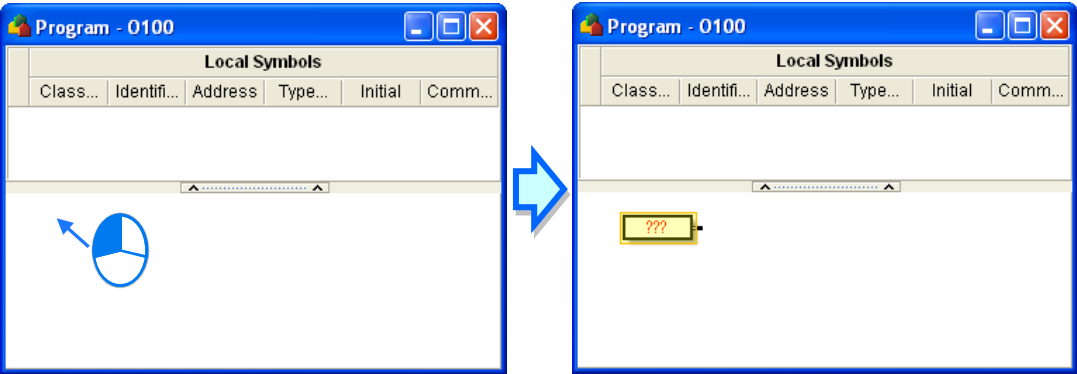

Figure 12-11 Inserting an object
(2) After the users click a position in the program editing area, an object will be inserted, as shown in figure 12-11.